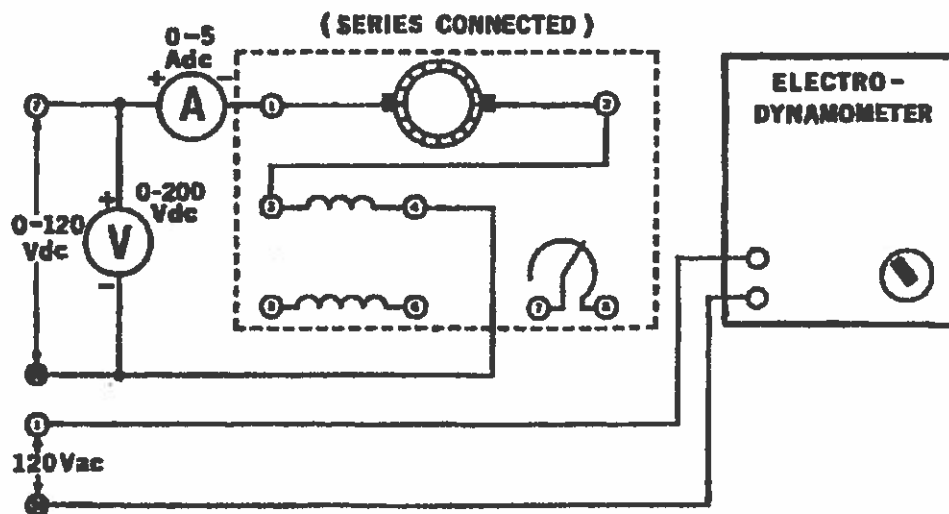

Figure 26-1.
1. Using your Power Supply, DC Motor/Generator, DC Voltmeter/Ammeter and Electro-dynamometer, connect the circuit shown in Figure 26-1.